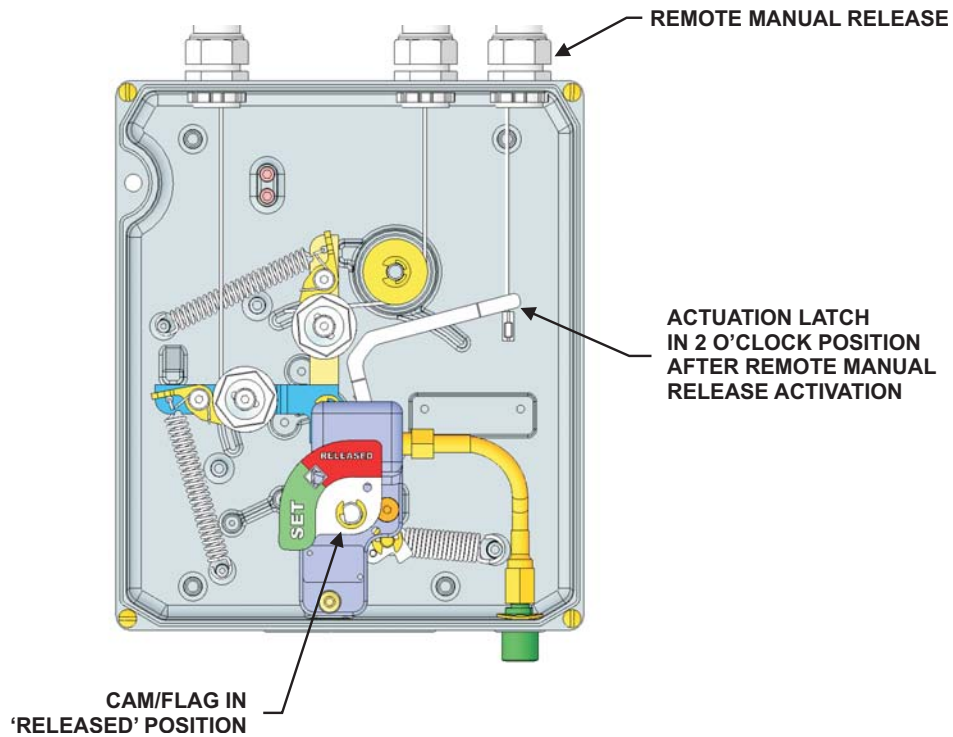

Figure 5-10. Actuation Latch in Release Position
5. Go to the XV Control System and check to ensure the Crimp Sleeve (P/N 214951) is against the bottom of the actuation latch and the actuation latch is pulled up at approximately 2 o'clock position (see Figure 5-10).